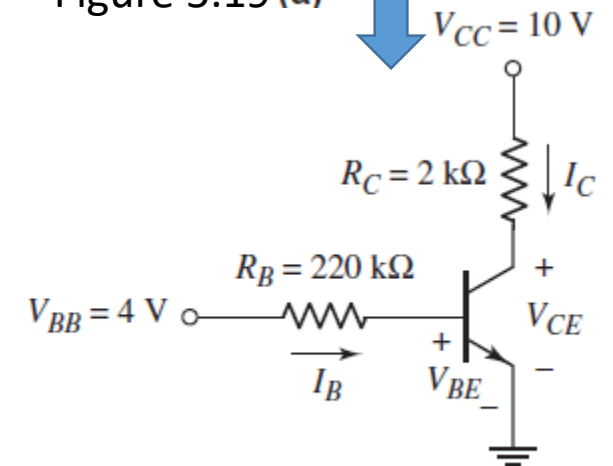

Figure 5.20 (a)
- Figure 5.20(a) shows the circuit without explicitly showing the voltage sources.